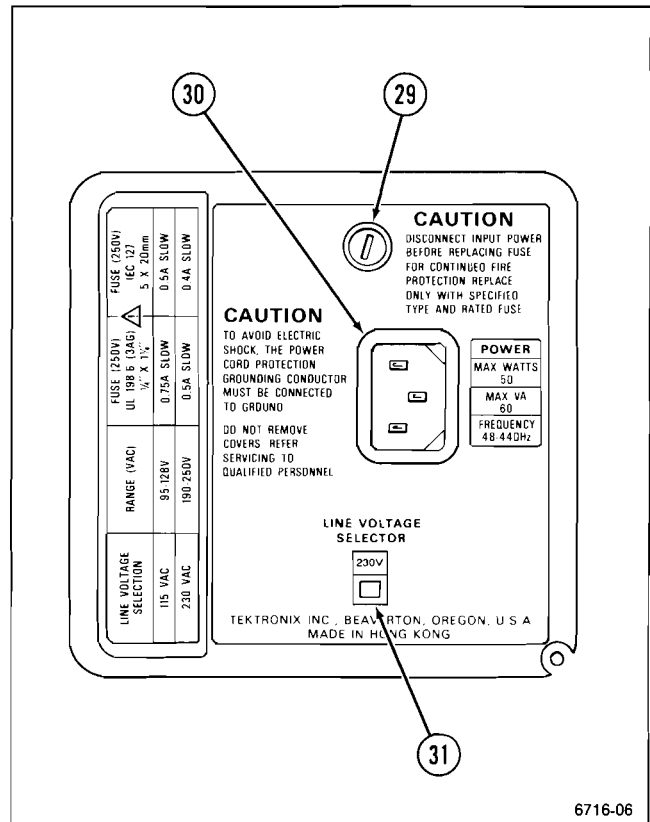

Figure 2-3. Rear Panel.
Refer to Figure 2-3 for items 29 through 31.
- ②⑨ **Fuse Holder**—Contains the ac-power-source fuse. See the rear-panel nomenclature for fuse rating and line-voltage range.
- ③① **Detachable-Power-Cord Receptacle**—Provides the connection point for the ac-power source to the instrument.
- ③② **Line Voltage Selector Switch**—Selects the line voltage operating range of either 115 Vac or 230 Vac.